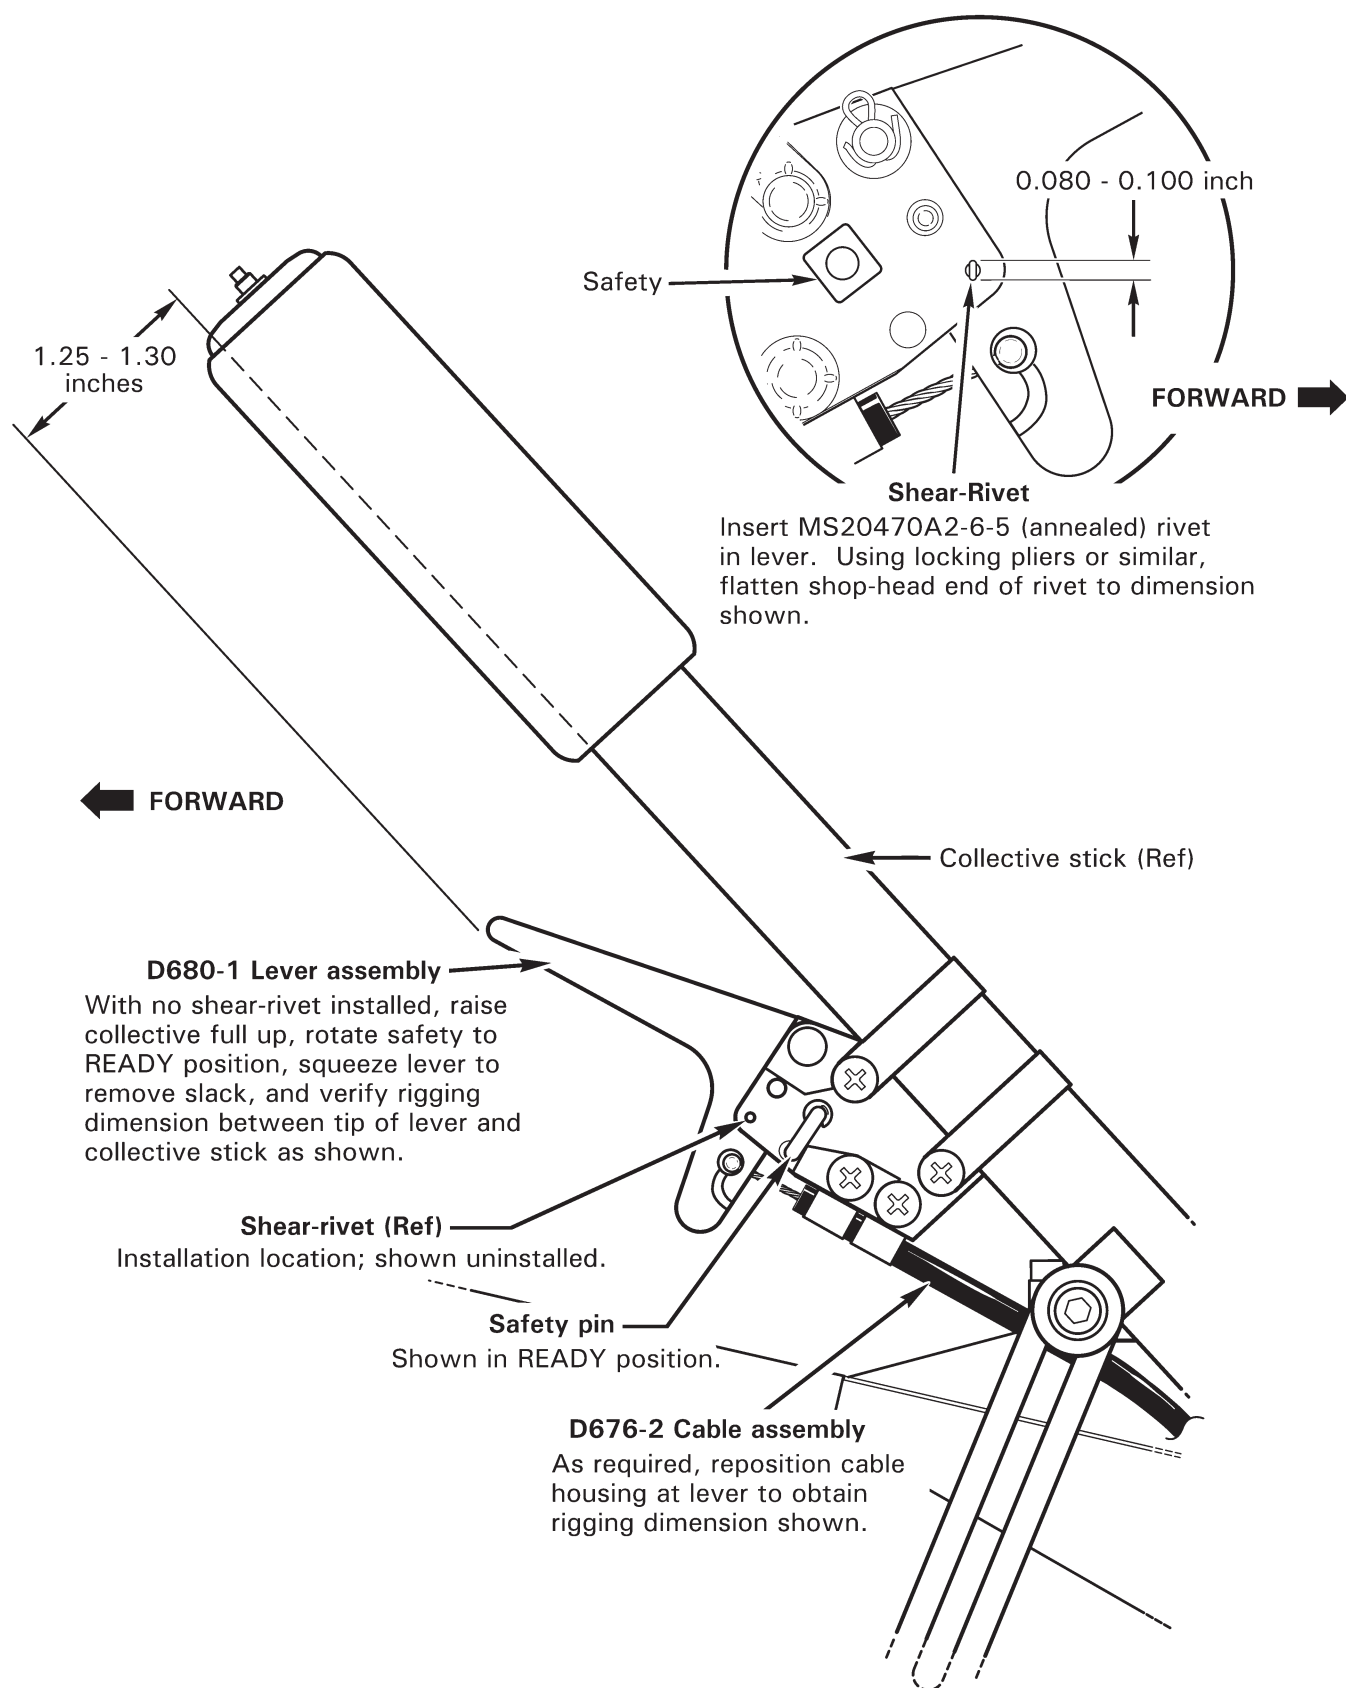

FIGURE 32-6 POP-OUT FLOATS LEVER RIGGING AND SHEAR-RIVET REPLACEMENT
2. Refer to Figure 32-6. With no shear-rivet installed, raise collective full up, push in and rotate D680-1 lever assembly safety to READY position, squeeze lever to remove cable slack, and verify 1.25 - 1.30 in. between tip of lever and collective stick as shown. As required, reposition D676-2 cable assembly housing at lever to obtain dimension.
4. Refer to Figure 32-6. Insert MS20470A2-6-5 (or MS20470A2-6.5) rivet in lever as shown. Using locking pliers or similar, flatten shop-head end of rivet to 0.080-0.100 in.